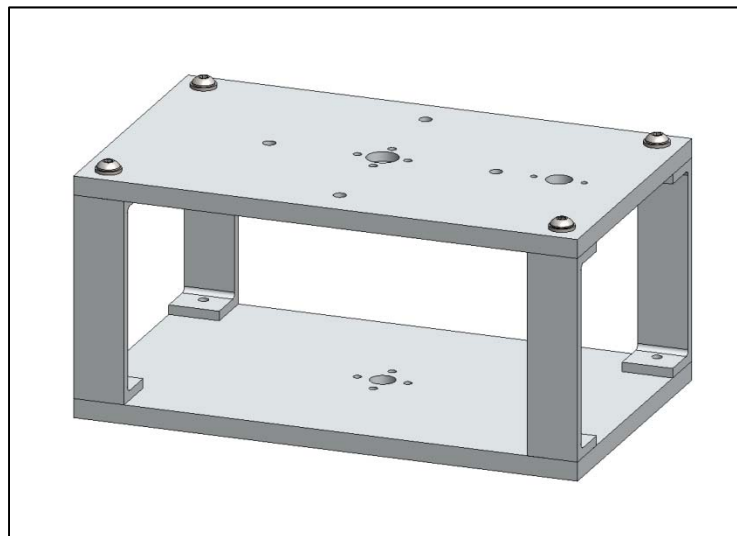

Figure 4.9 – Plate assembly using c-channel for posts
- Figure 4.9 below shows the two plate assembly using C-channel. This method is appears relatively quick to machine but has significant alignment limitations: